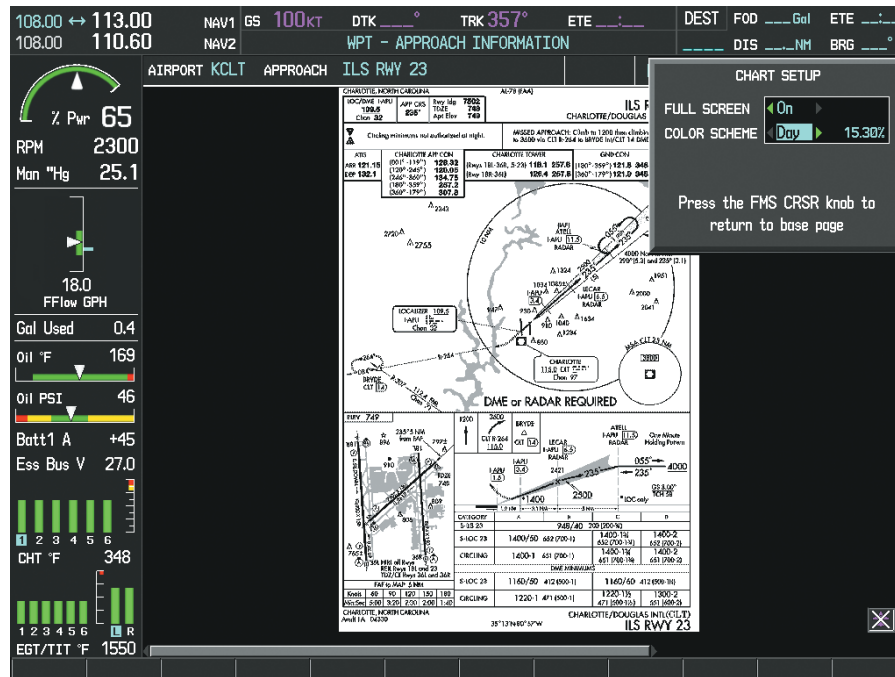

Figure 8-72 Approach Information Page, Day View
- 3) Turn the large **FMS** Knob to move to the COLOR SCHEME Option (Figure 8-72).